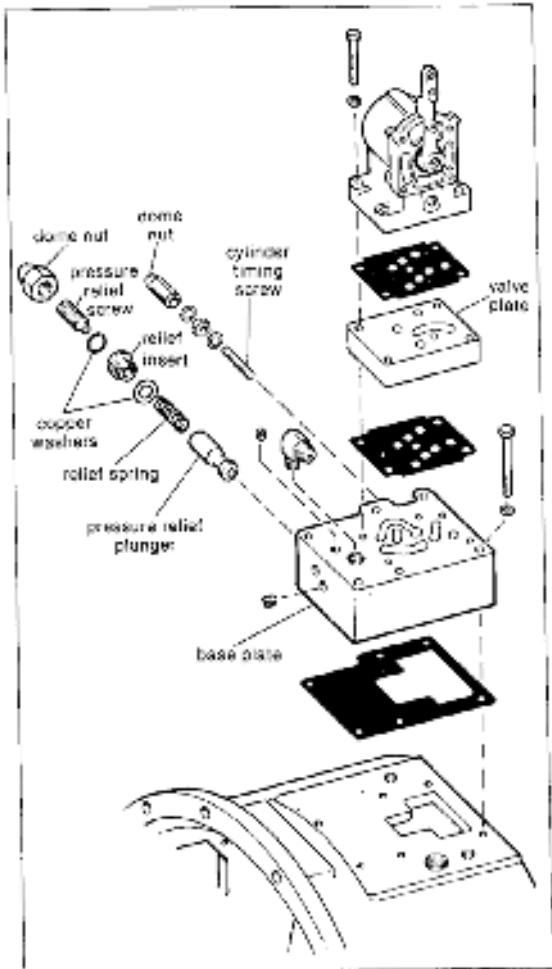

Fig. 21. Exploded View: Selector valve and related parts.
8. Check for correct assembly by moving lever back and forth. Selector valve is now ready to be installed on main housing. See fig. 21
1. Remove dome nut, pressure relief screw, relief insert and accompanying washers. See fig. 21. NOTE: REMOVE RELIEF SCREW CAREFULLY BECAUSE RELIEF SPRING IS UNDER TENSION.